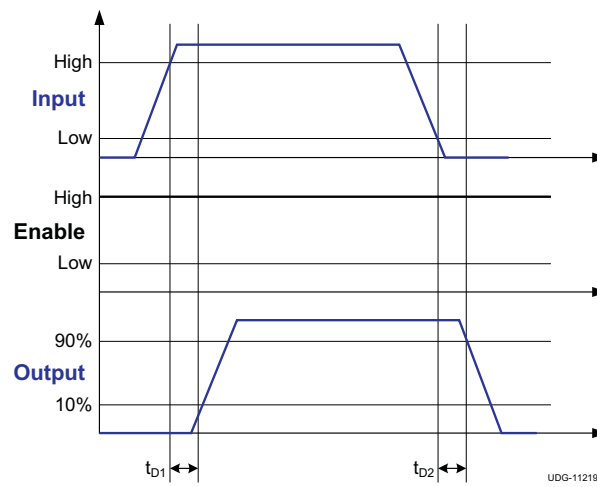

Figure 2. Non-Inverting Input-Driver Operation
(1) See the timing diagrams in Figure 1 and Figure 2